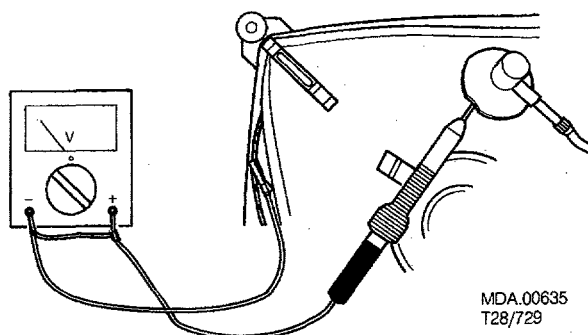

Fig. 1
3. To prevent damage to ICs and transistors any flash-over of the EHT should be avoided. To prevent damage to the picture tube the method, indicated in Fig. 1, has to be applied to discharge the picture tube. Make use of an EHT probe and a universal meter (position DC-V). Discharge until the reading of the meter is 0V (after approx. 30s).